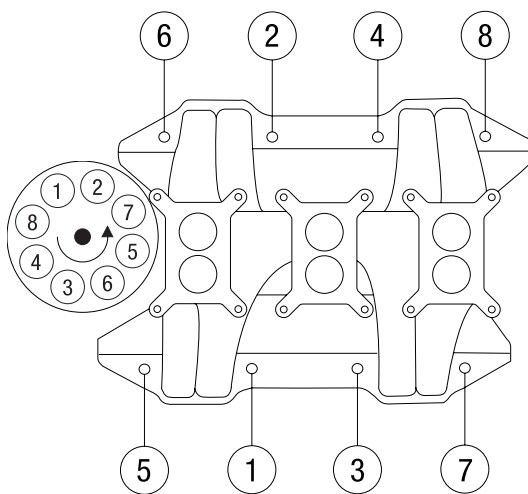

Figure 1 - 361-440 c.i.d. Chrysler Intake Manifold Torque Sequence
5. Install the intake manifold and hold-down bolts. Torque all of the manifold bolts in two steps by the sequence shown in Figure 1 to 25 ft/lbs.